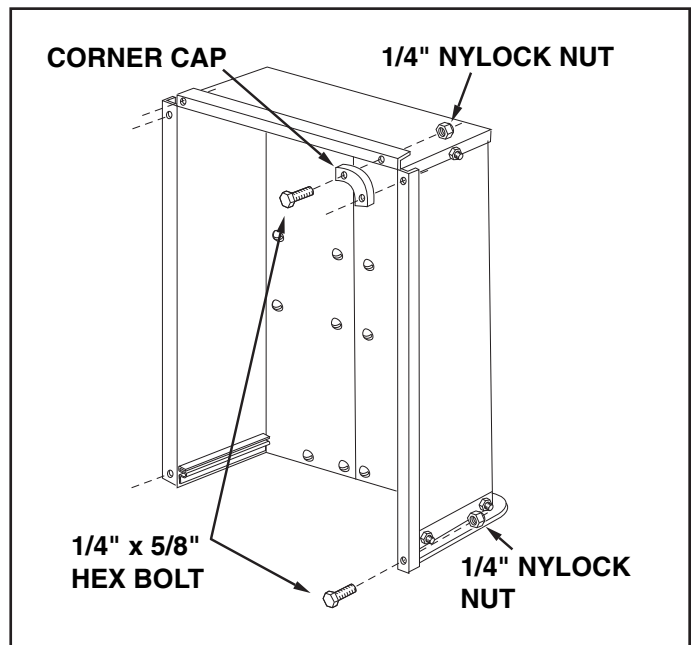

FIGURE 8
12. Assemble the two corner caps to the front corners of the cart using four 1/4" x 5/8" hex bolts and 1/4" nylock nuts. Also assemble two 1/4" x 5/8" hex bolts and 1/4" nylock nuts to the two rear corners of the cart. **TIGHTEN.** See figure 8.